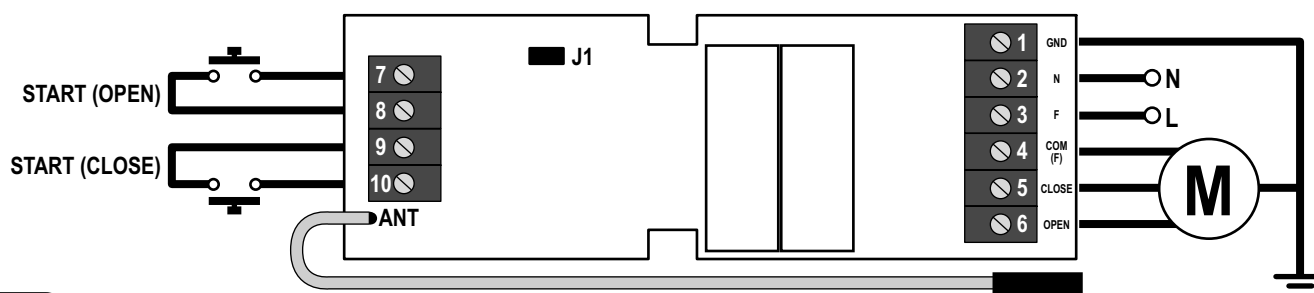

Fig.1
The control unit is set to work with 2 buttons (Fig.1).
1. Connect the buttons as shown in figure 1